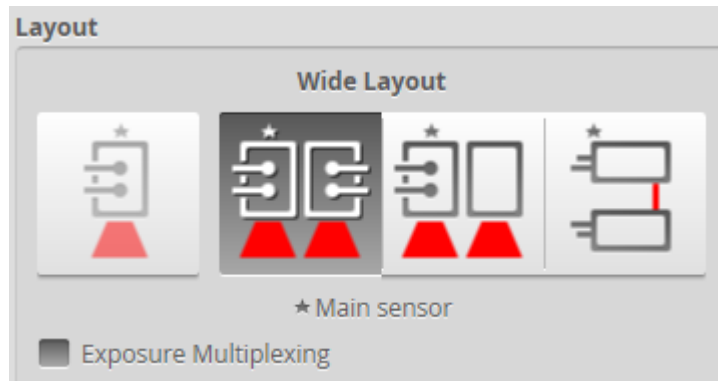

Figure 9: Layout under Sensor System on Manage page
- The correct layout must be selected in the **Layout** section in the **Sensor System** category on the **Manage** page before alignment for a successful operation. See Figure 9.
- If the Main and Buddy sensors are mounted so that the camera from one sensor can detect the laser from the other sensor, the **Exposure Multiplexing** feature can be used to eliminate laser interference. Exposure multiplexing creates a time offset for laser exposures and ensures that interfering lasers are not strobed at the same time. Note that the use of exposure multiplexing may reduce the maximum frame rate. See Figure 9.